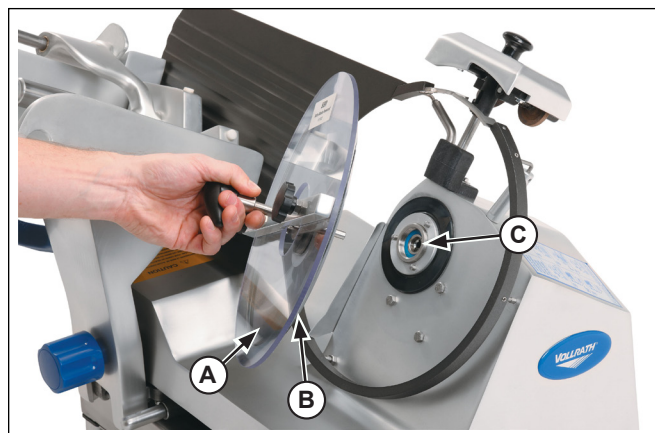

Figure 13. Tray Knob, Stud and Product Tray
5. Unscrew the safe blade removal tool (C) while holding the crossbar (E).
6. Lift the safe blade removal tool (A) and knife (B). See Figure 13.
7. Clean the back side of the blade (B) and other exposed parts of the equipment. Clean the equipment with a damp cloth and mild soap. Do not use abrasive detergent or cleaning materials as they can damage the finish of the slicer. Remember that the blade is extremely sharp.
9. Set the safe blade removal tool (A) and knife (B) into the center hub (C). See Figure 13.
10. Rotate the safe blade removal tool (A) and blade until it fits onto the hub pins.